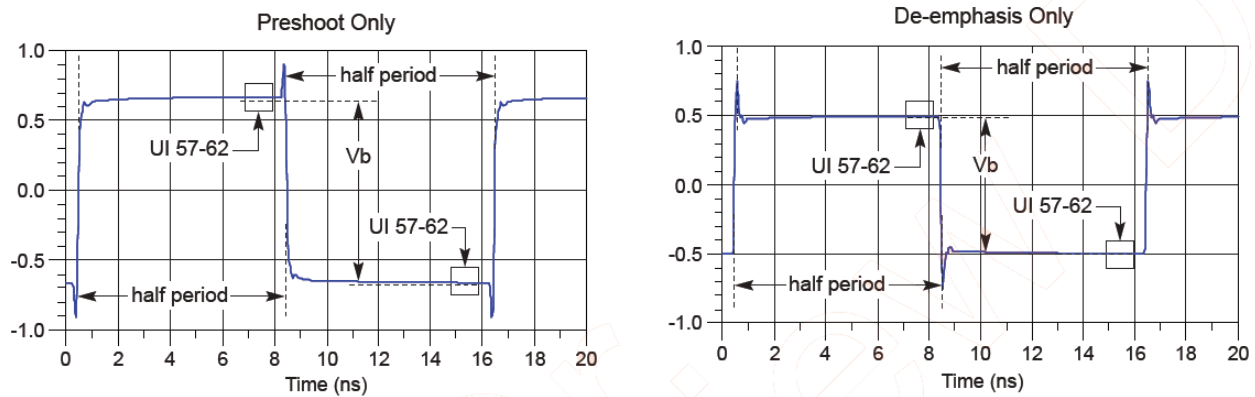

Figure 82 Waveform measurement points for pre-shoot and de-emphasis
8.0 GT/s and 16.0 GT/s PCIe signaling must support the full range of presets given in Table 8-1 of the PCI Express Base Specification, Rev 4.0. Presets are defined in terms of ratios, relating the pre-cursor and post-cursor equalization voltages. The pre-cursor (V_c) is referred to as pre-shoot, while the post-cursor (V_b) is referred to as de-emphasis. This convention permits the specification to retain the existing 2.5 GT/s and 5.0 GT/s definitions for Tx equalization, where only de-emphasis is defined, and it allows pre-shoot and de-emphasis to be defined such that each is independent of the other. The tolerances in Table 8-1 also apply to 2.5 and 5.0 GT/s de-emphasis. The maximum swing, V_d , is also shown to illustrate that, when both c_{+1} and c_{-1} are non-zero, the swing of V_a does not reach the maximum as defined by V_d . Figure 8-5 is shown as an example of transmitter equalization, but it is not intended to represent the signal as it would appear for measurement purposes. The high frequency nature of PCIe signaling makes measurement of single UI pulse heights impractical. Consequently all amplitude measurements are made with low frequency waveforms, as shown in Figure 82.